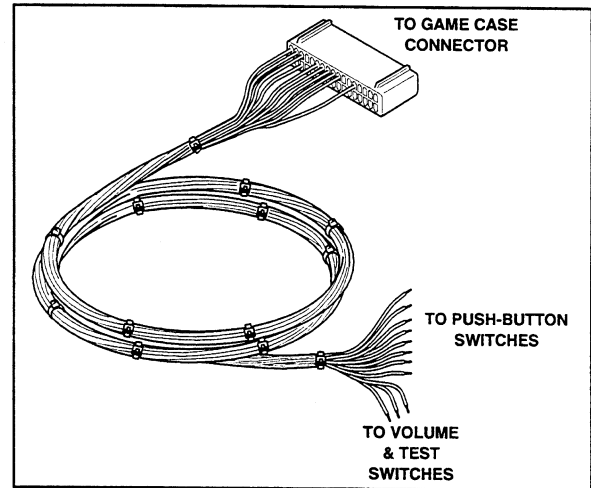

FIGURE 6
22. Connect the Player 1 and the Player 2 Kick buttons to the auxiliary cable harness connectors shown in Figure 6. Make the connections according to the chart in Figure 7.